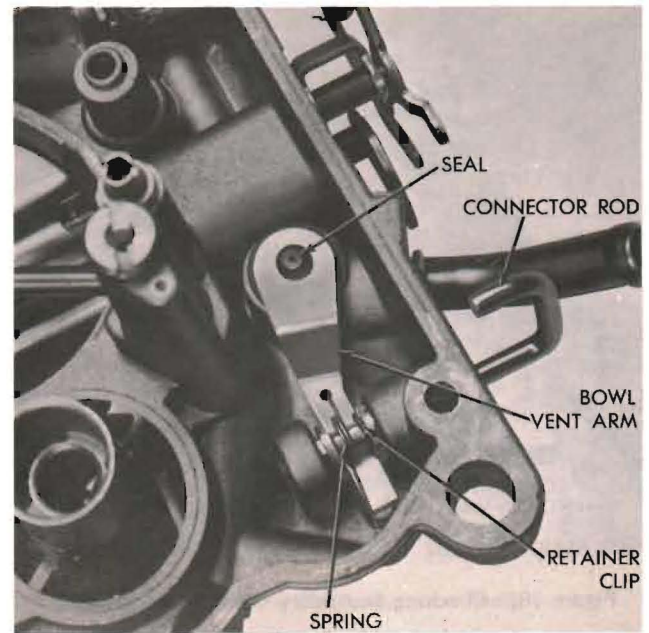

Figure 15. Bowl Vent Assembly Installation
- (8) Install accelerator pump discharge check needle in discharge passage. Using a small clean rod, hold discharge check needle firmly on its seat. Again raise the plunger and press downward. No fuel should be emitted from the discharge passage. Fuel leakage at discharge passage indicates presence of dirt or a damaged check needle. Clean again and install a new check needle. Re-test for leakage.
- (9) If the discharge check needle leaks after the above test, attempt to reseat it as follows:
- (10) Install a new grommet seal on bowl vent arm, position bowl vent arm in bowl cover with bowl vent arm spring hooked in the arm, then install the bowl vent connector rod, making sure that rod goes through loop of spring and the flat end engages the slot in bowl vent arm. Install the retainer clip. Bowl vent connector rod should be up when installed with bowl cover in an inverted position. (See figure 15.)
- (11) Place gaskets on fuel inlet needle seats, then install the seats in bowl cover. Tighten both seats securely. (Make sure each needle seat and needle is re-installed in its original position, if being re-used).
- (12) Place a new bowl-cover to main-body gasket in position on the bowl cover, then slide right- and left-hand floats into position in bowl cover. Install float fulcrum pins. Make sure the marked float is installed on pump side of bowl cover.